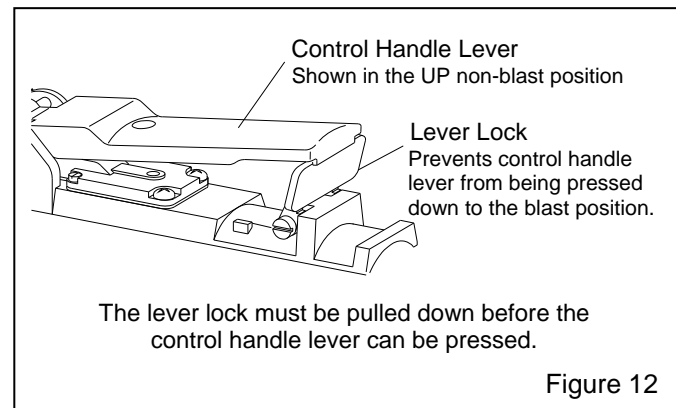

Figure 12
3.2.11 Make sure the remote control handle lever is in the up (no blast) position, as shown in Figure 12 and that the handle lever and safety lock move freely.